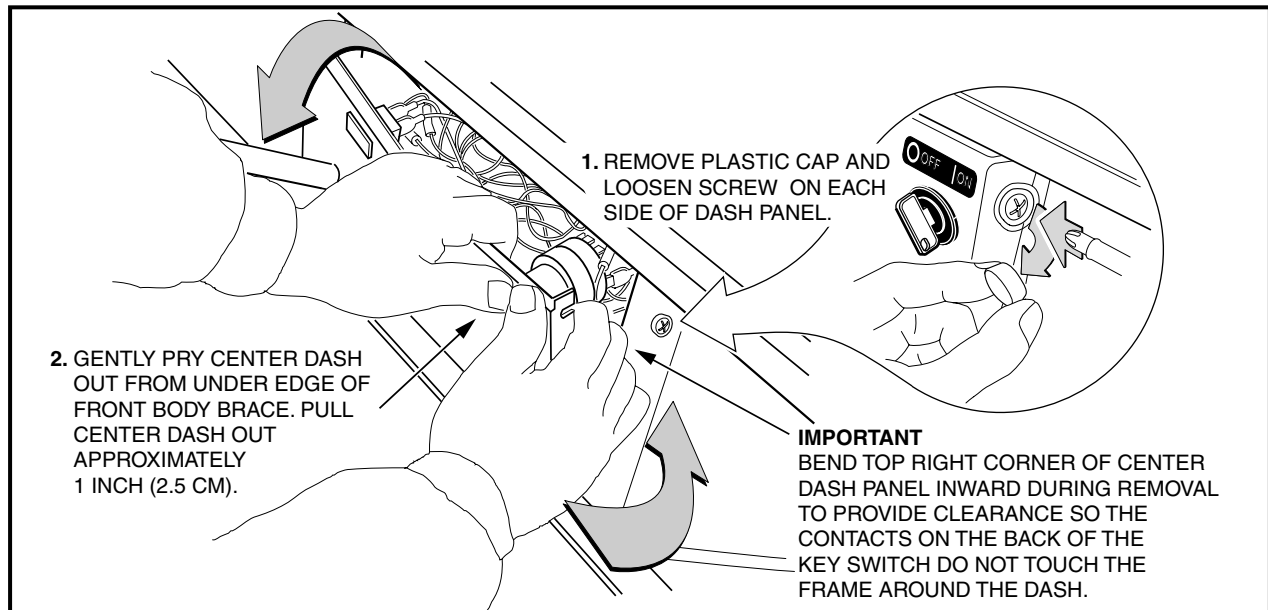

Figure 7-3 Dash Removal
3. Remove the center dash panel (**Figure 7-3, Page 7-3**).
- 3.1. Remove the plastic cap covering the mounting screw on each side of the center dash (**Figure 7-3, Page 7-3**).
5. Install the bolt (2) and lock washer (3) on the upper universal joint and finger tighten (**Figure 7-3, Page 7-5**).